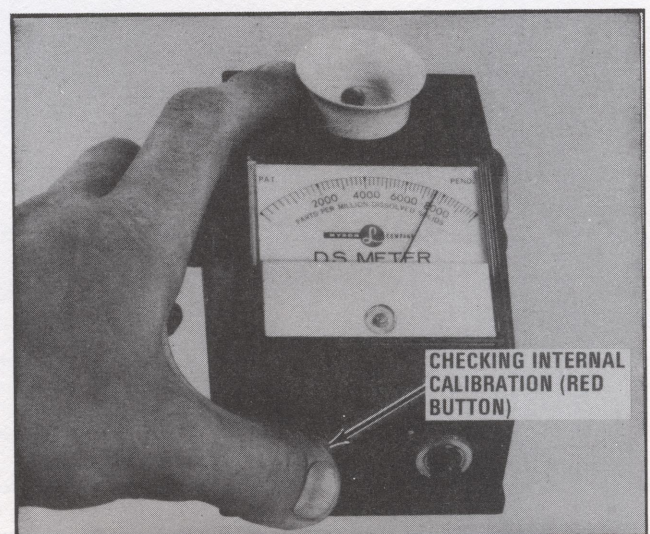

FIG. 4. CHECKING INTERNAL CALIBRATION OF METER.
2. Push the red button, Fig. 4, to check the internal standard calibration.